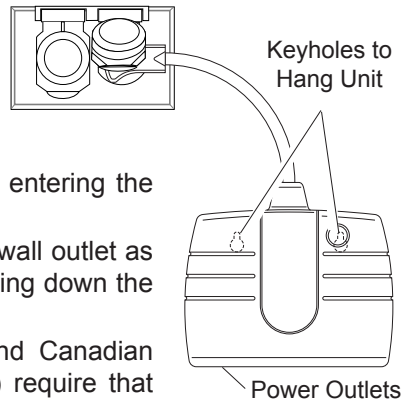

Figure 2
**3. Mount Outdoor Module.** Hang module with two nails or screws. There are two keyholes on the back for this purpose (see Figure 2, page 2). DO NOT allow module to hang by cord.
- The module must be oriented with the power outlet down to prevent rain from entering the unit (see Figure 2).